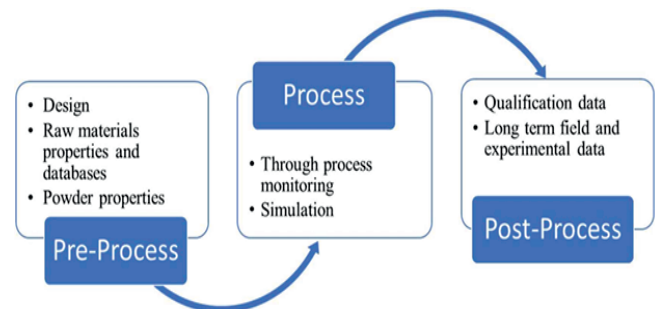

Figure 1. AM powder bed manufacturing process
As shown in Figure 1, it is beneficial to break down the applications into the pre-processing, process, and post-process for the application of AI in AM, given the complexity of the process. Design space can use ML during the pre-processing stage (geometrical design, topology optimization, raw materials design, and powder properties). Predicting material properties is now possible thanks to advances in machine learning (ML) in raw material design. Designing new novel materials is also made easier with it, and it can take advantage of AM's unique manufacturing capabilities to bring designs to life that otherwise would not be possible. Even though machine learning has been applied to design space (geometric design and topology optimization), it has not been applied to powder properties, which are the least explored areas. The process itself categorizes ML applications for experimentation in-process monitoring and optimization, and simulation work in the same area. One of the areas that have seen much research is experimental process monitoring and optimization.